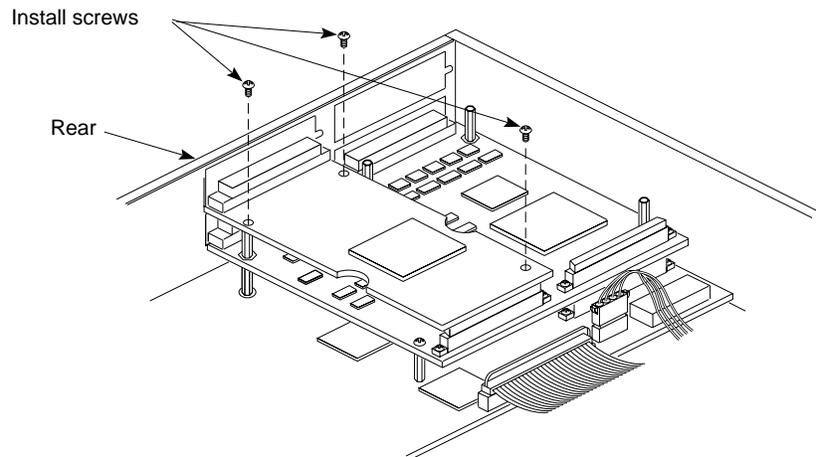

Figure 5-4 Installing a single-width GIO option board
- Align the screw holes on the GIO option board over the vacant standoffs (tall, hexagonal posts), as shown in Figure 5-4.
- Using a Phillips screwdriver, insert and tighten the three screws (provided with the board) to secure the GIO option board, as shown in Figure 5-4. As you tighten the screws, alternate between them so that the board is connected evenly.